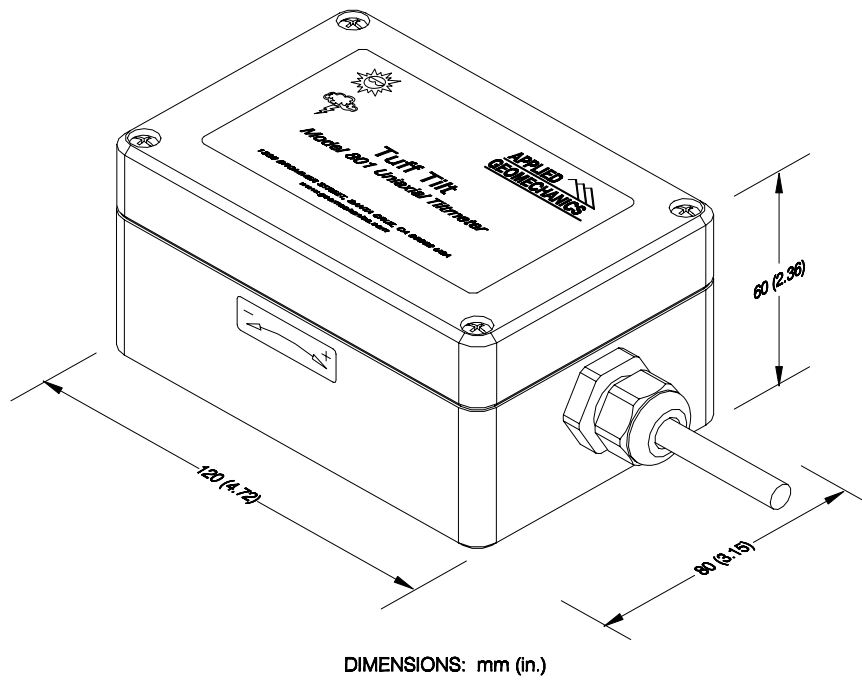

Figure 1. Model 801 Tiltmeter - Longitudinal Tilt Style
Model 801 tiltmeters are available in high-gain ($\pm 0.5^\circ$ range), standard ($\pm 3^\circ$ range) and wide-angle ($\pm 50^\circ$ range) versions. Each of these versions is produced in both longitudinal and transverse tilt styles (Figures 1 and 2). Range and tilt style are specified when ordering.
3. Refer to the (+) and (-) tilt directions in Figure 1 or 2 (also shown on a label on your tiltmeter). With the tiltmeter in your hands, rotate it to verify the sign (polarity) of the outputs. A rotation in the (+) direction should make the voltage output become more positive.